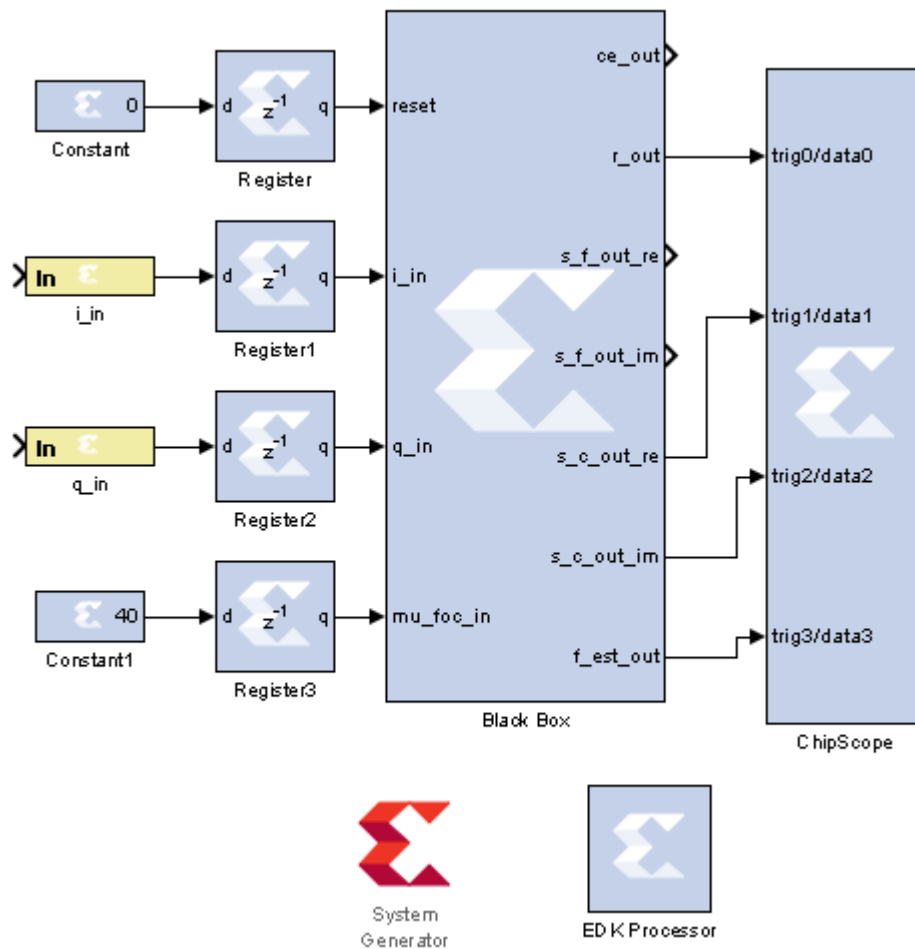

Figure 2-4: Simulink model for receiving DC Offset output
The **Simulink model**⁴ exported from your previous HDL Coder project is shown in Figure 2-4. This model will be used for receiving the DC offset correction output and sending the data to ChipScope for extraction.
1. **Modify** the Simulink model `rx.slx` created earlier to look similar to Figure 2.4.